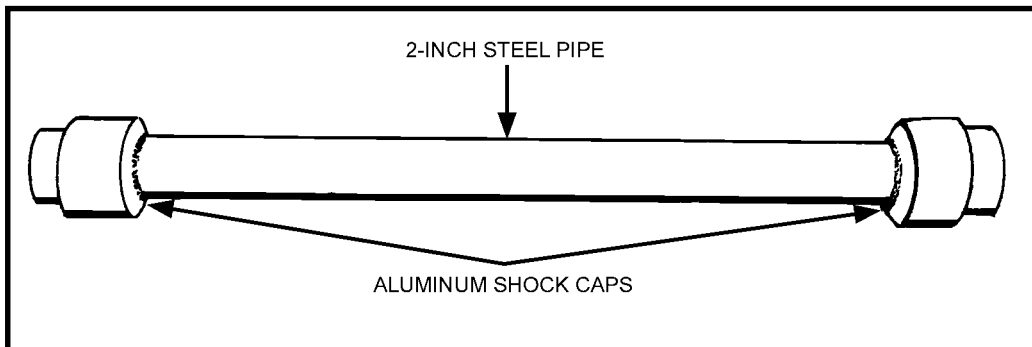

Figure A-3. Filler block.
b. The filler block (Figure A-3) consists of a round steel pipe fitted with an aluminum shock cap on either end, which fit snugly into the barrel without scoring it. Either aluminum cap receives the spherical projection of the 60-mm barrel and distributes the recoil shock. The center of each cap is threaded to receive the filler block retriever. The shock caps fit over the striker pin of the 4.2-inch barrel, allowing all the shock to be exerted on the base end of the barrel rather than on the striker pin (Figure A-4).